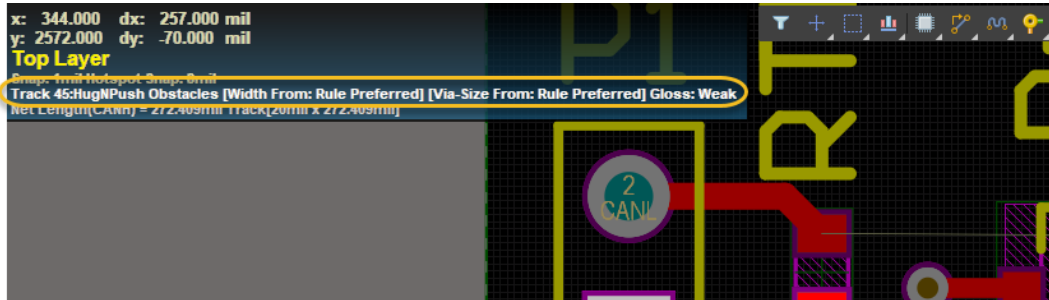

Figure 7. Conflict Resolution modes displayed in the HUD
- f) Experiment with a few of the different routing modes, *Walkaround*, *HugNPush*, *Push*, *Ignore Obstacles* and *Stop at First Obstacle*. The current routing resolution mode is displayed in the *Status Bar* and the *Heads-Up Display* as shown in Figure 7.